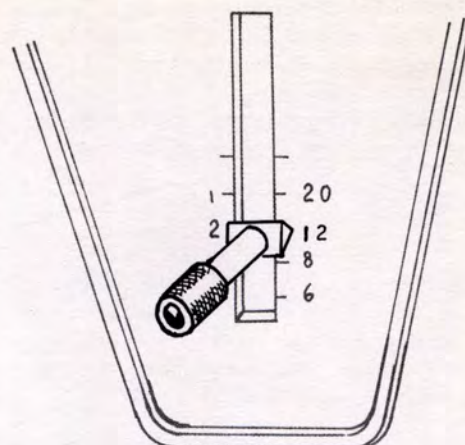

Fig. 9. Stitch Length Regulator Set for 12 Stitches.
1. Set stitch length regulator for 12 stitches per inch, as shown in Fig. 9.
2. Set stitch length regulator for 12 stitches per inch, as shown in Fig. 9.